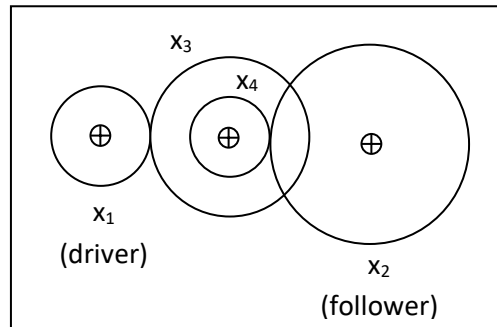

Fig. 1. An example of a compound gear train.
A compound gear train is to be designed to meet a desired gear ratio between the driver and the gears (fig. 1). The number of teeth on each of the four gears ( $x_1$ ,  $x_2$ ,  $x_3$ ,  $x_4$ ) can be varied. The objectives are to minimize (1) the error between the designed gear ratio and the desired gear ratio of 1/6.931 and (2) the maximum number of teeth on any of the four gears.